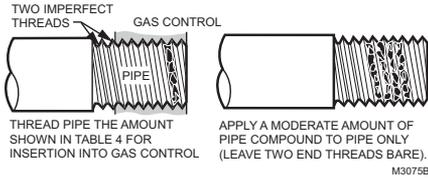

Fig. 2. Use moderate amount of pipe compound.
4. Apply a moderate amount of good quality pipe compound (do not use Teflon tape) only to the pipe, leaving two end threads bare. On LP installations, use a compound resistant to LP gas. See Fig. 2.